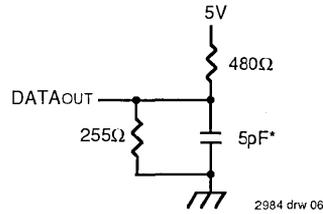

Figure 2. AC Test Load
- This parameter guaranteed with AC Load (Figure 2) by device characterization, but is not production tested.